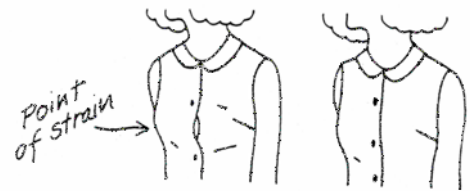

Figure 9
- Begin placement with the button/buttonhole at the greatest amount of stress; i.e., bustline, shoulder blade, etc. (Figure 9)